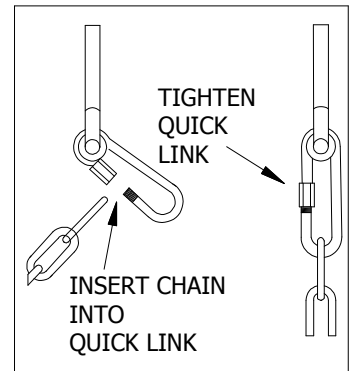

FIG. 4
ATTACH (2) FW CHAINS TO SWING HANGER QUICKLINKS ALREADY ASSEMBLED TO THE SWING BEAM. (FIG. 4)